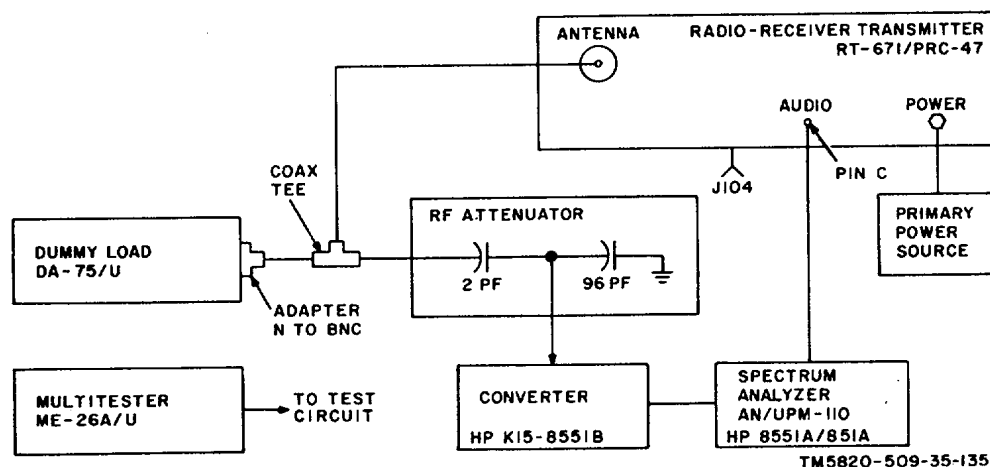

Figure 5-1. Transmit Mixer Balance and Transmitter Gain Control Adjustment, Equipment Setup.
(fig. 5-1)
- (1) Spectrum Analyzer AN/UPM-110
- (2) Converter, Hewlett-Packard K15-8551B
- (3) Dummy Load DA-75/U
- (4) Attenuator (see fig. 5-1)
- (5) Multimeter ME-26A/U
- (6) Primary power source: 115-volt, 400-Hz, single-phase, 3 amp.
(1) Connect the test equipment to Radio Receiver-Transmitter RT-671/PRC-47 as shown in figure 5-1. Do not connect ME-26A/U until instructed to do so.
(2) Connect the primary power source to the receiver-transmitter.
(3) Turn on the test equipment and place the POWER-LIGHTS switch on RT-671/PRC-47 to POWER ON. Permit the equipment to stabilize for at least 5 minutes before beginning the procedures listed in the chart below.